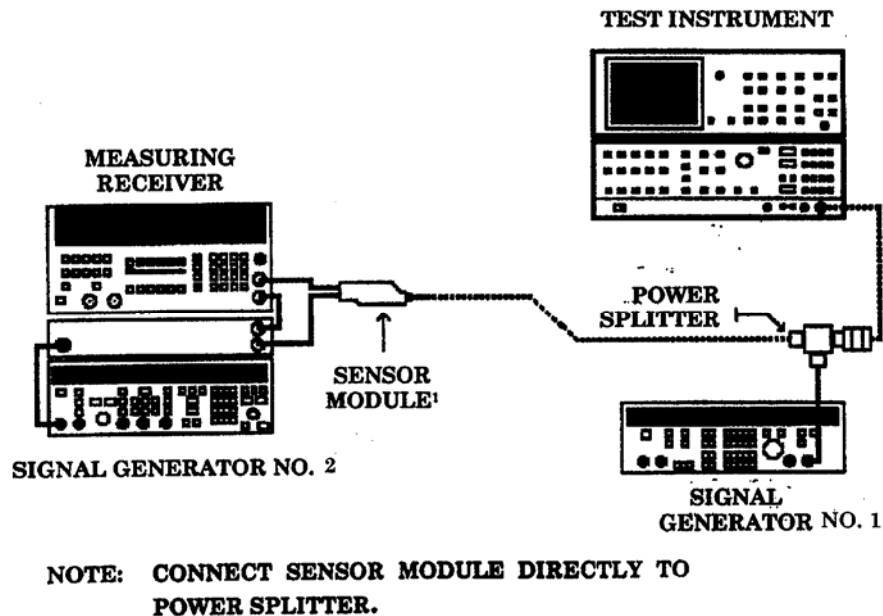

Figure 27. Frequency response connection 1.
- (27) Disconnect TI **RF INPUT** from synthesizer/level generator **50Ω OUTPUT**.
- (28) Connect sensor module, 11792A, to measuring receiver **CALIBRATION RF POWER OUTPUT**.
- (29) Zero and cal the sensor module.
- (30) Connect equipment as shown in fig. 27.